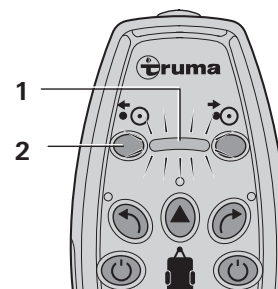

Figure 7
- Press the button (Figure 7 - 2) on the remote control for about 5 seconds and then release it. The drive roller disengages. When the drive roller has completely disengaged it again moves a few millimetres forward to take the load off the mechanics. Wait until this has taken place. The display (Figure 7 - 1) flashes during this process.